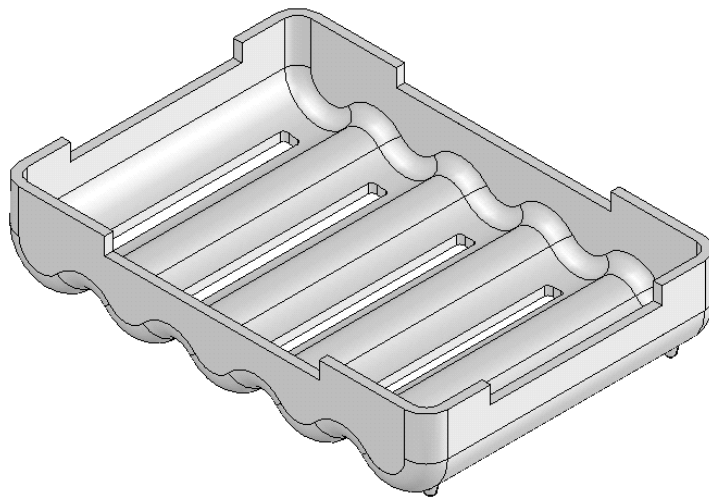

Figure 9-52 Final model
5. Pattern the filleted standoff feature using the **Linear Pattern** tool. The isometric view of the final model is shown in Figure 9-52.